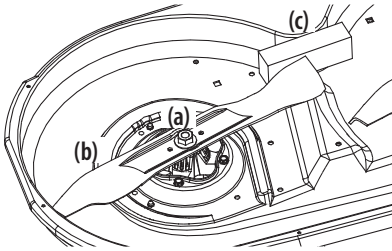

Figure 50
2. Use a 15/16" wrench to hold the hex nut on top of the spindle assembly when loosening the hex nut (a) securing the blade (b). A block of wood (c) may be placed between the deck housing and the cutting edge of the blade (b) to help in breaking loose the hex nut (a) securing the blade. See Figure 50.